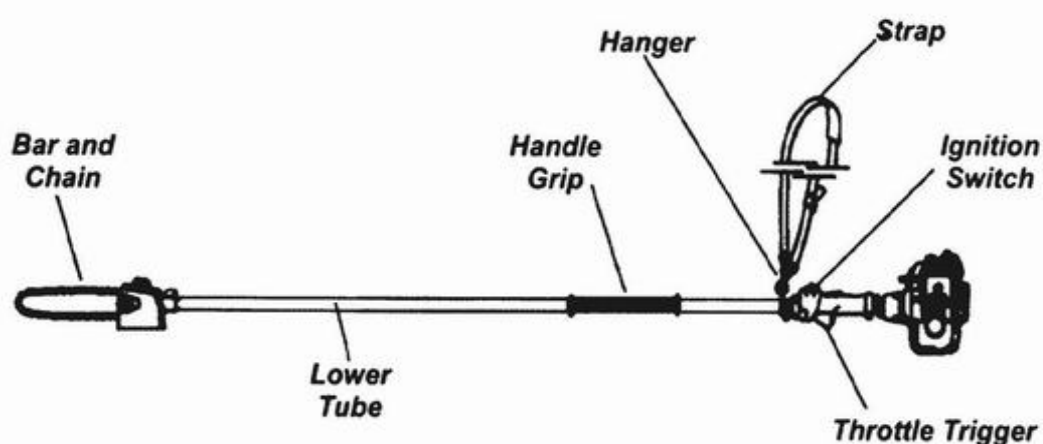

Figure 15
2. Follow "assembling the pole sections" section to assemble the gearcase onto the lower tube assembly. See figure 15.